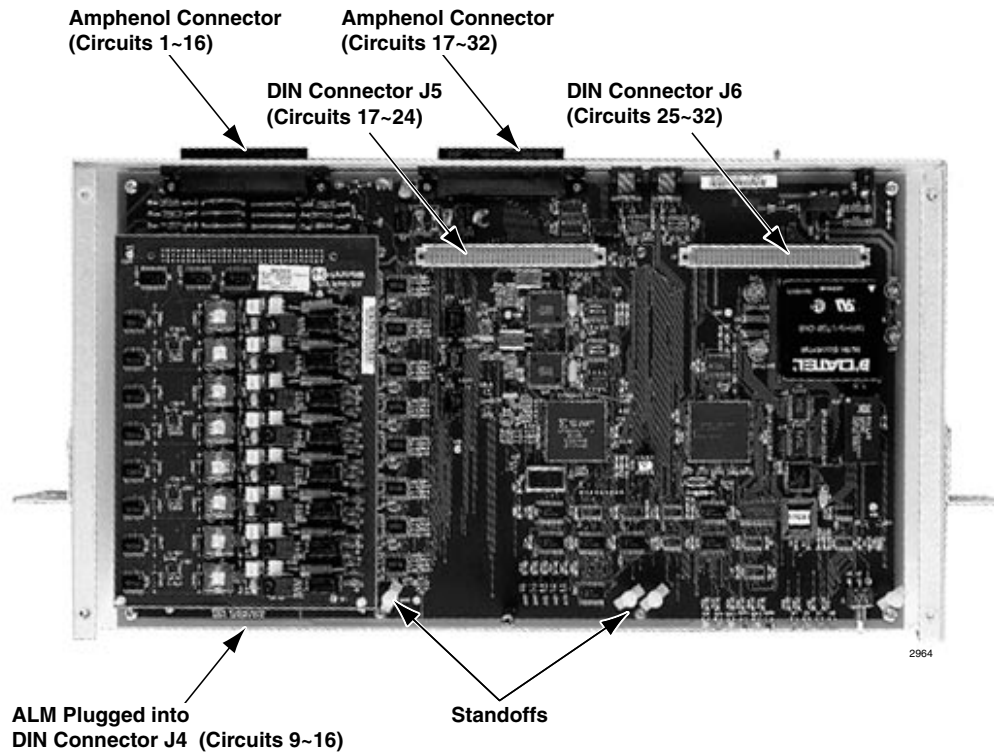

Figure 16 ALM Connections on the BSIA
2. Align the ALM with DIN connector J5 (see Figure 16).